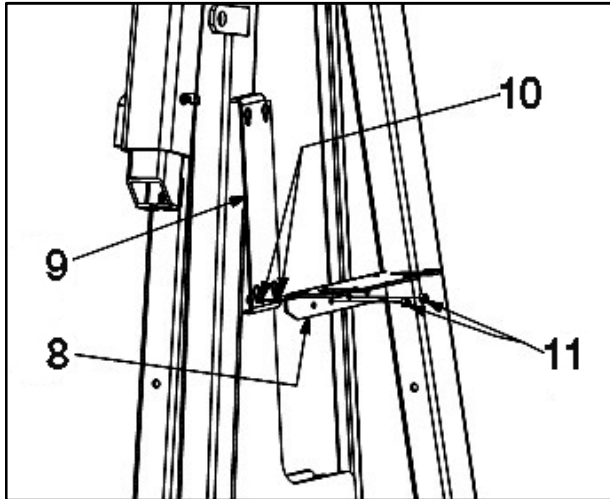

Fig. 5: Attach bracket to crane
1. Attach the pump bracket [#8] to the bracket [#9] on the side of the crane using two 3/8" X 3/4" flange head bolts [#10] and two 3/8" nuts [#11] as shown in Fig. 5. Be sure to attach the pump bracket [#8] to the bottom set of keyhole slots in the bracket [#9].